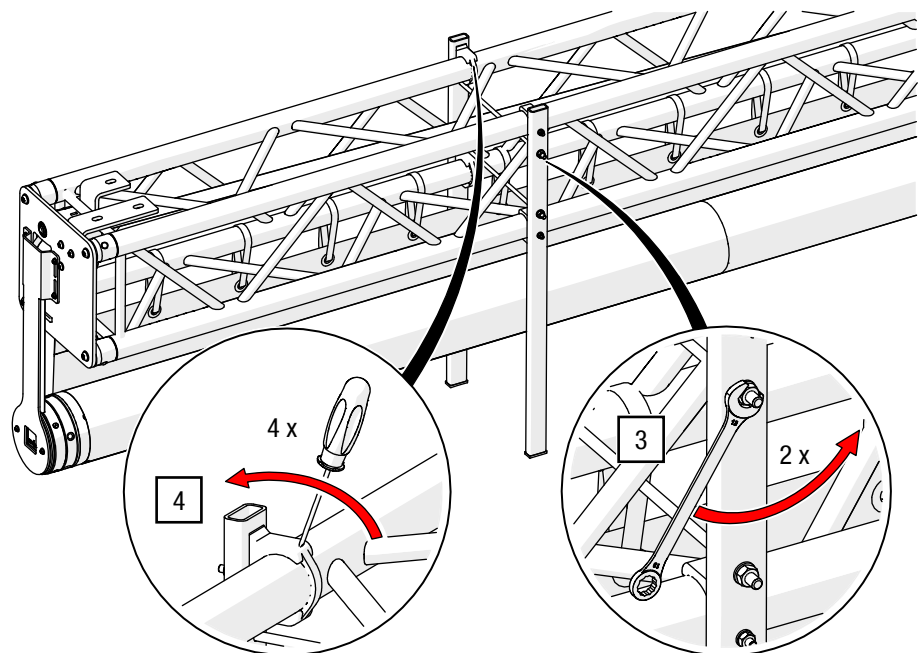

Fig. 14: Loosen transport feet
3. Loosen the screw connection of the threaded rods on one side using an AF 13 hexagon wrench (see Fig. 14).
4. Loosen the pipe clamps on both transport feet by levering the pipe clamps open with a flat-blade screwdriver (the design of the pipe clamps may vary depending on the manufacturer; see Fig. 14).